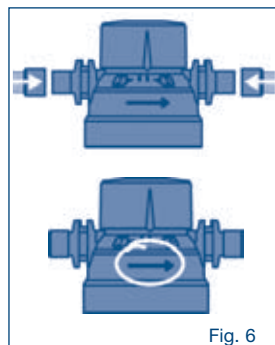

Fig. 6
2. Observe the correct direction of flow (see Fig. 6).